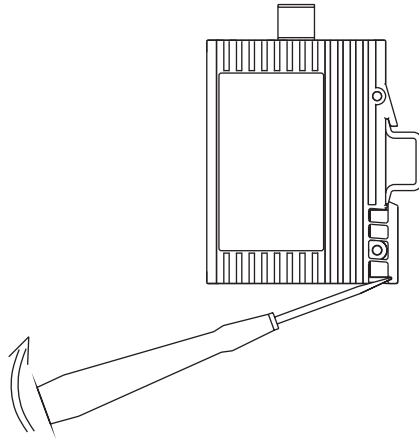

Fig. 7: Dismantling the SPIDER xTX(/xFX)
□ To take the SPIDER xTX(/xFX) off the ISO/DIN rail, unlock the snap-in mechanism according to Fig 7.